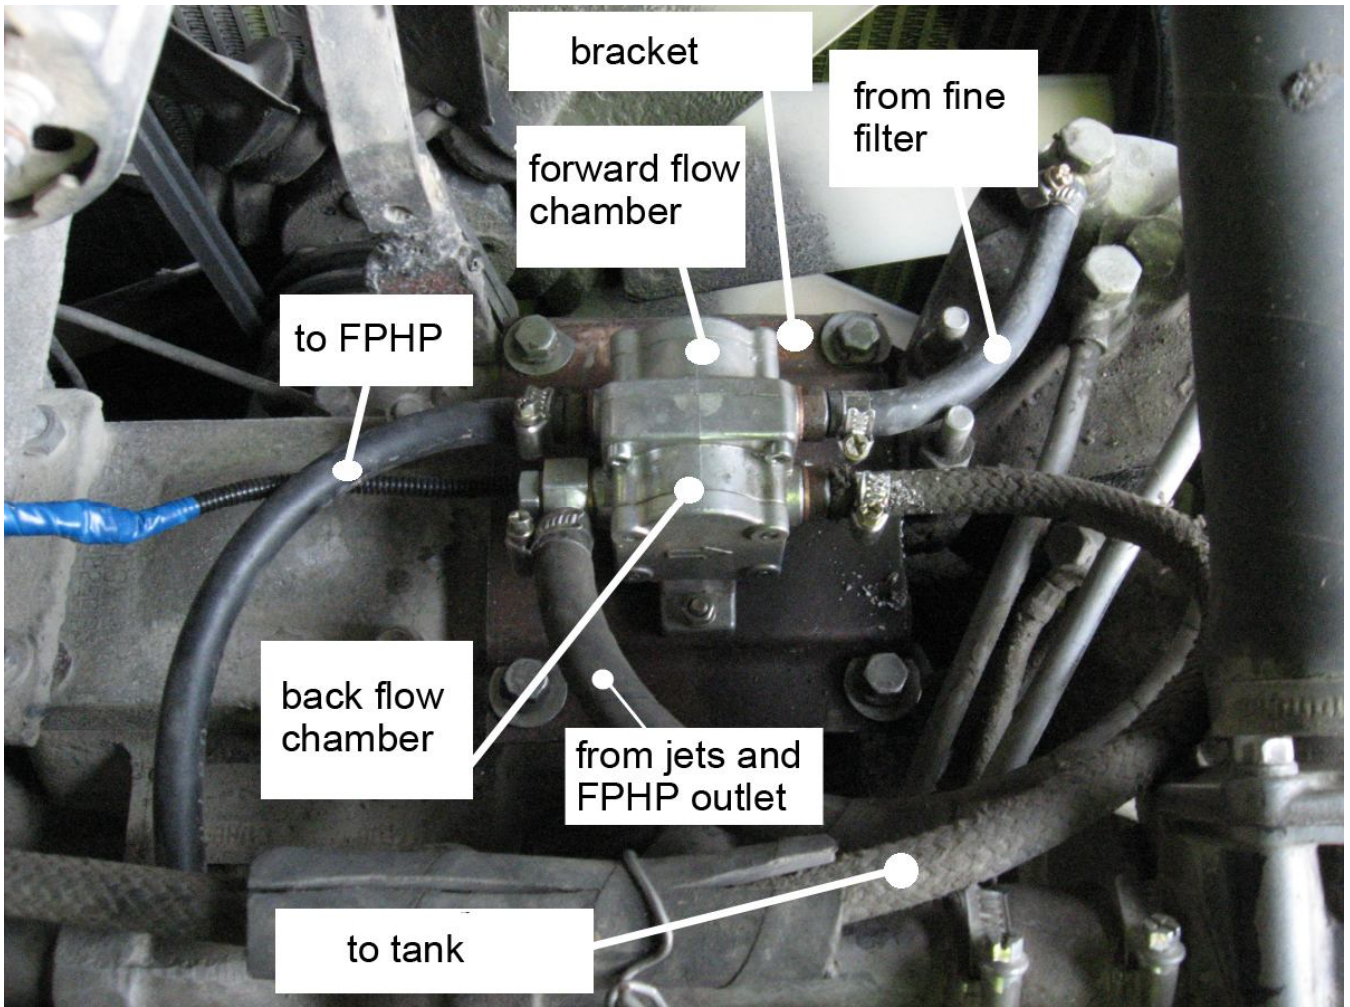

Fig. 4 An example of sensor installation on JAMZ engine
**Fig. 4 choice of the installation plane.**